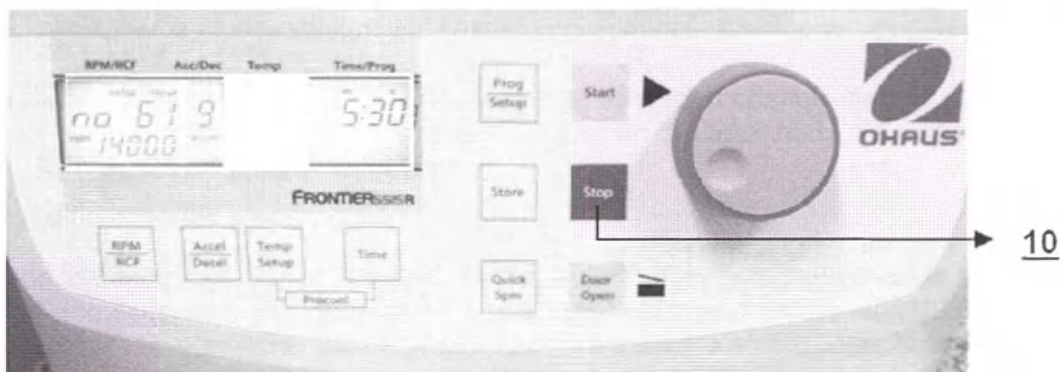

Fig. 27.
The centrifuge can be stopped any time using the key **Stop** (10) (see Fig. 27). After pressing the key, the centrifuge gets decelerated with the preset intensity until complete stop.